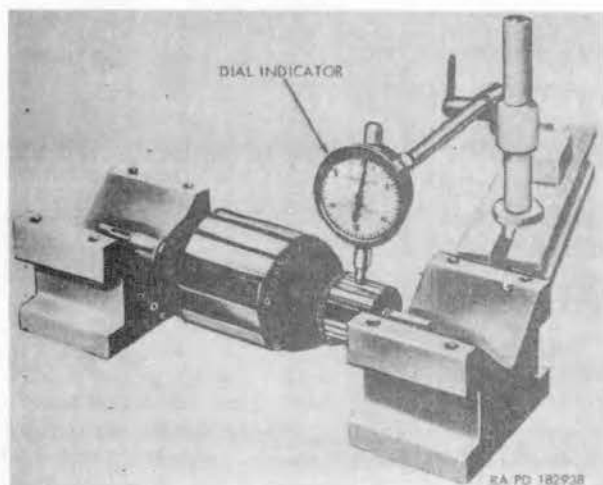

FIGURE 22. CHECKING COMMUTATOR RUN-OUT.
- (1) Visual. Inspect commutator for roughness, grease, dirt, high mica, or evidence of burning. Inspect to see that windings are not loose from core and not unsoldered from commutator risers. Inspect bearing surfaces of armature for burs, pits, or excessive wear. Inspect armature shaft for straightness. Replace armature if shaft is bent.
- (2) Commutator run-out (fig. 22). Place armature in "V" blocks. Measure run-out using a dial indicator as shown in figure 22. Total indicated run-out must not exceed 0.001 inch, and variations between any two adjacent bars shall not exceed 0.0003 inch. If run-out exceeds these limits, recondition commutator (c below).
31 illustrates examples of good and bad undercutting. Measure the accuracy of the reconditioned commutator using a dial indicator gage as shown in figure 22. Total indicated run-out shall not exceed 0.001 inch, and variation between two adjacent bars shall not exceed 0.0003 inch.